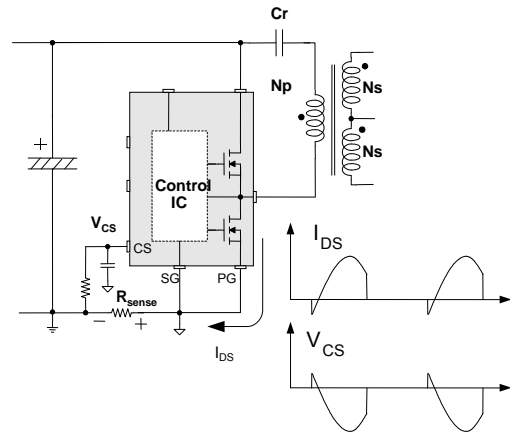
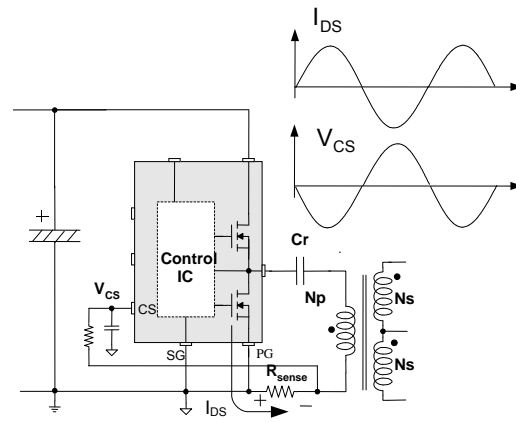

Figure 27. Half-Wave Sensing
Figure 28. Full-Wave Sensing
8.1 Resistive Sensing Method: The IC can sense drain current as a negative voltage, as shown in Figure 27 and Figure 28. Half-wave sensing allows low power dissipation in the sensing resistor; while full-wave sensing has less switching noise in the sensing signal. For a time constant range for the filter, 3/100~1/10 of the operating frequency is reasonable.